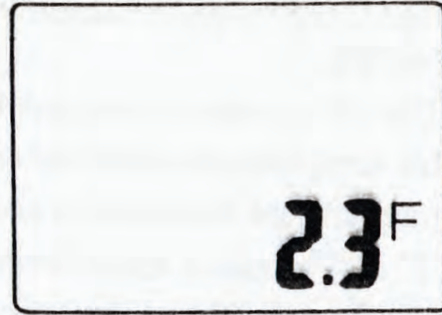

FIG 9
3. The formula to get the right calibration is  $T_c = T_o + T_m - T_s$ ,  $T_c$  stands for final deviation value shown in the display (Fig. 9).  $T_o$  stands for initial deviation value shown in the display (Fig. 7).
lease the key when it display “2” (Fig. 8). Press NX/td key, the “Y” will be flashing now. Hold on MN/MX, it will change from 0-9. Release the key when it displays “3” (Fig. 9). Press PRG until it displays “SA” (Fig. 10). Turn off the machine and finish the temperature calibration. If you turn on the meter now, it will display Fig. 11.
1. Power off. Push ON & PRG at the same time and hold till the LCD displays CAL (Fig. 6). As ON & PRG are released, the LCD will display a number X.Y (Fig. 9).